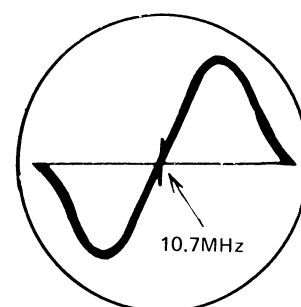

Fig. 11
5. Align the L19 & 20 so that the S-curve will become symmetrical and maximum. (Refer to Fig. 11.)